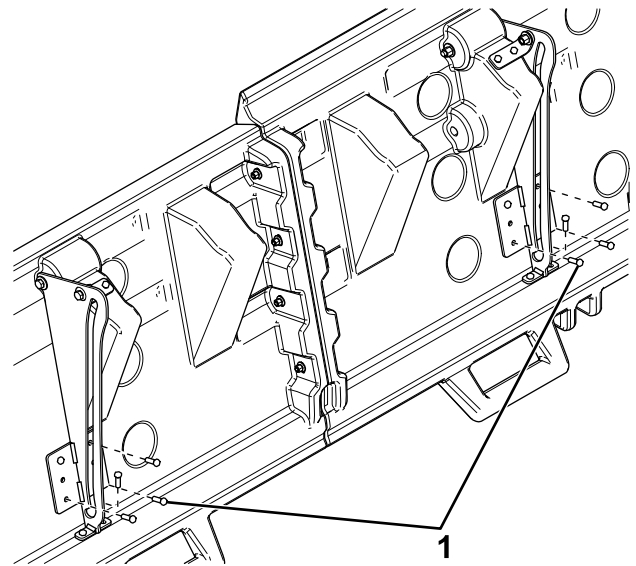

Figure 6
- Secure the tracks to the cover using 8 lag screws (Figure 6).